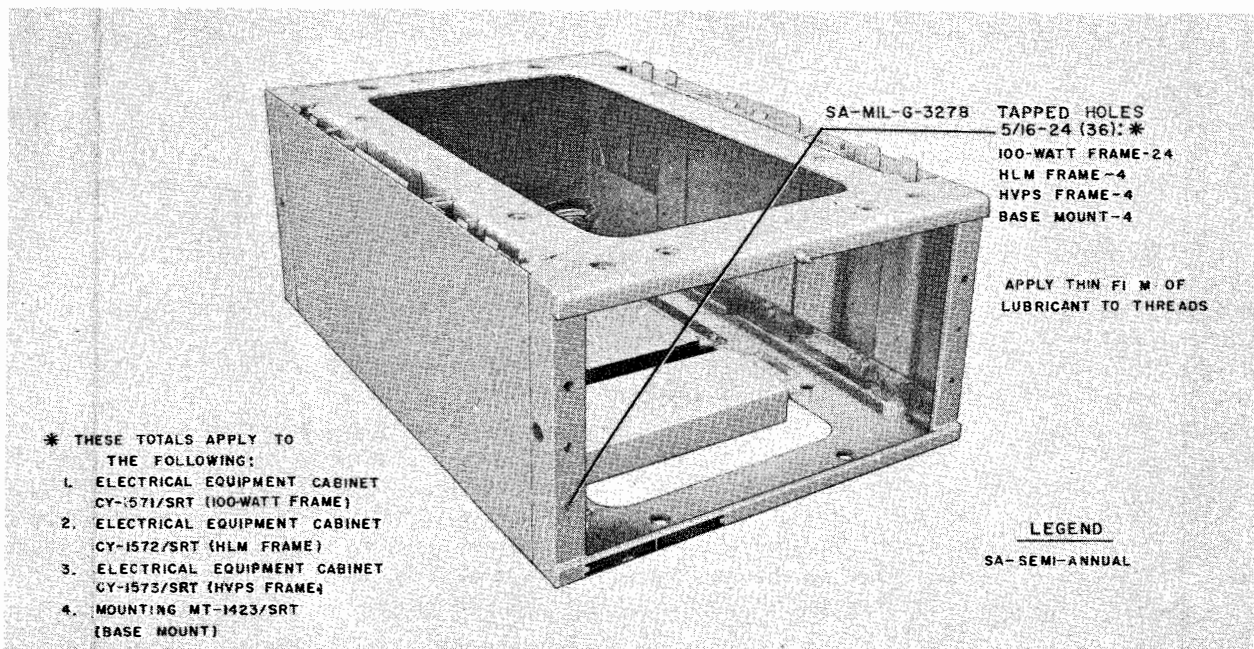

Figure 6-11. Electrical Equipment Cabinet and Base Mount Tapped Holes, Lubrication
(1) FRAMES AND BASE MOUNTS.— Figures 6-11 and 6-12 refer to the lubrication procedures that are used on the equipment frames. The various tapped holes, nuts, latches, and rollers are shown, with references to the lubricants to be used.
(2) RADIO FREQUENCY AMPLIFIER